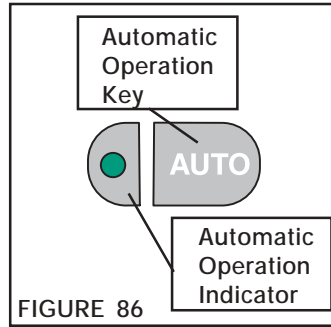

FIGURE 86
1. Press the Automatic Operation Key until the indicator turns off indicating Manual mode of operation (See Figure 86).
1. The preset values for Set1, Set2, and Set3 can be used for the starting tension. Press the Automatic Operation Key until the indicator illuminates, indicating Automatic mode of operation (See Figure 86).